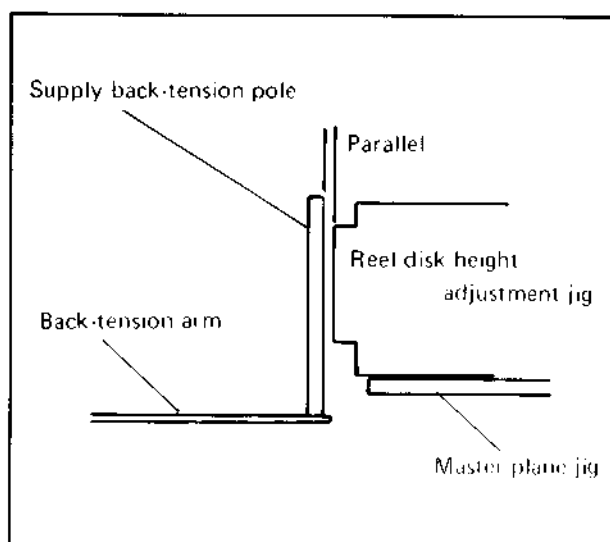

Fig. 4-32
6. Place the reel disk height adjustment jig on the master plane jig and adjust the tilt of the tension pole as shown in Fig. 4-32.